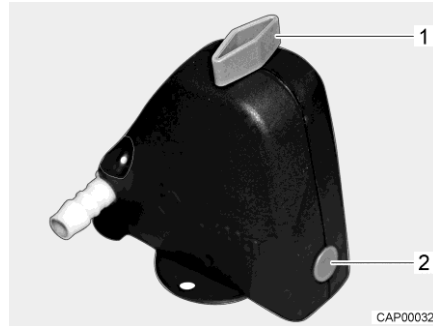
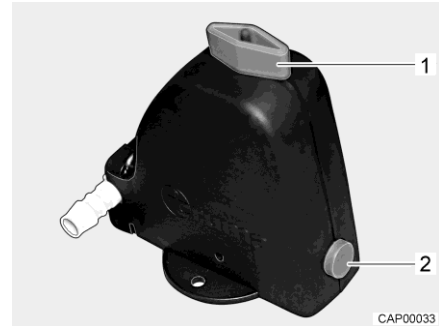

Fig. 100 Safety/drainage valve closed
Fig. 101 Safety/drainage valve open
- Open the safety/drainage valve (Fig. 100). To do this, turn the knob (Fig. 100,1) parallel to the safety/drainage valve. The push button (Fig. 100,2) jumps out. The open safety/drainage valve is shown in Fig. 101.